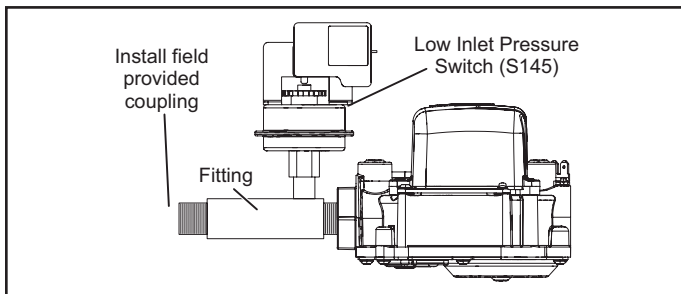
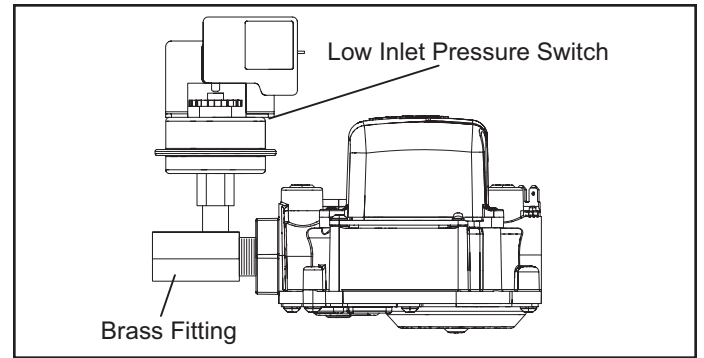

Figure 4.
Figure 5. Gas Valve with Low Inlet Pressure Switch Location
9. Thread provided fitting to gas valve inlet until hand tight. Using properly sized wrench, tighten fitting 2 to 3 full turns being careful to position the side port to allow clearance for the pressure switch and harness. See Figure 4 or Figure 5.
NOTE: Some installations may require the pressure switch and fitting assembly to be positioned differently than shown in Figure 4 or Figure 5.
10. Thread the gas supply to the fitting until hand tight. A field provided coupling may be needed. See Figure 4. Using properly sized wrench to support fitting, tighten supply line into fitting 2 to 3 full turns to achieve leak free joint.